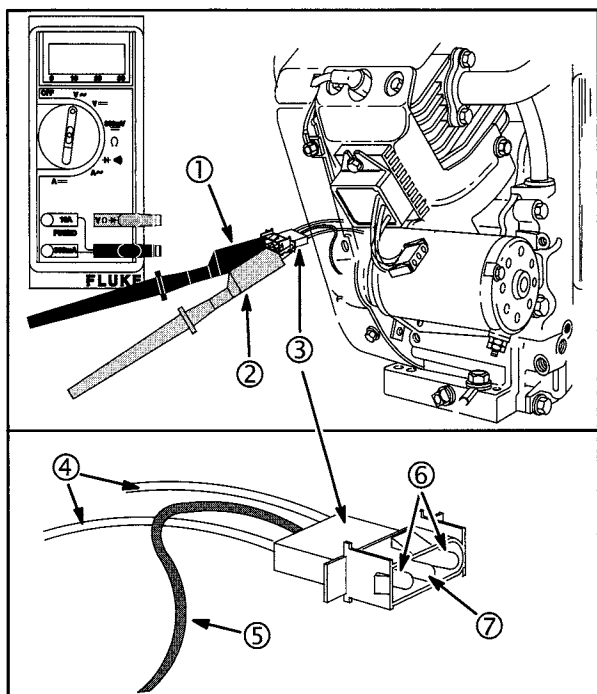

Fig. 31
4. Attach RED (2) and BLACK (1) test lead probes to the YELLOW wire (4) AC output terminals (6), of the connector (3), as shown in **Fig. 31**. (Meter test clip leads may be attached to either AC output terminal.)
4. Attach RED test lead probe (2) to the RED wire (5) DC output terminal (7), of the connector, **Fig. 31**.
5. Attach BLACK test lead probe (1) to negative battery terminal.